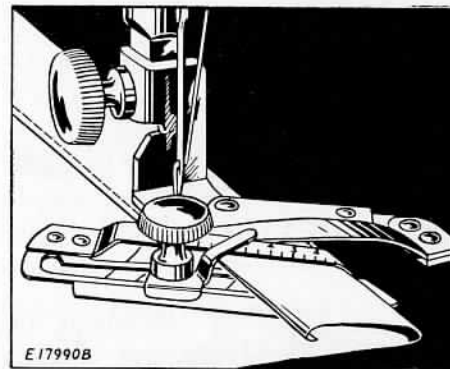

Fig. 46. Making Hem Up to 15/16 Inch Wide With Adjustable Hemmer
- Place cloth in hemmer and draw it back and forth until hem is formed, as shown in Fig. 46.